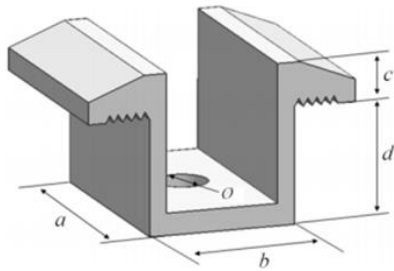
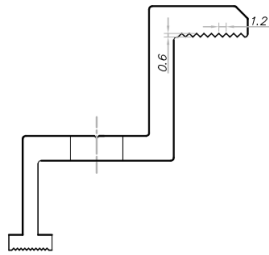
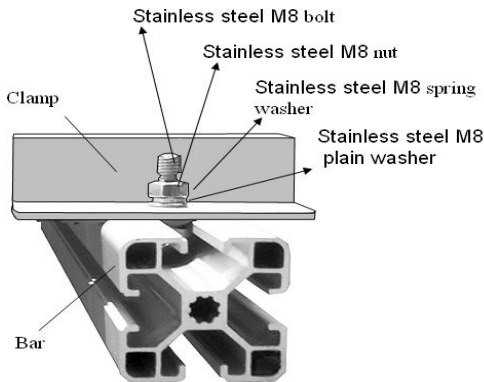

Fig. 5 Schematic diagram of the mid clamp
Fig. 6 Schematic cross section of the fringe clamp
Fig. 7 Schematic diagram of the fringe clamp
- ① Place the module on the two supporting rails (not provided by Astronergy) which should be made with stainless material and treated with an anti-corrosion process (e.g. hot dipped galvanizing). Each PV module needs at least four clamps to be fixed. The module clamps should not come into contact with the glass and should not deform the frame, otherwise they may cause module damage.
- ② Be sure to avoid shadowing effects from the module clamps. Weep holes on the module frame must not be closed or obscured by the clamps. The clamp must have at least 8mm but no more than 11mm overlap with the frame of the module (The clamp section can be changed under the premise of ensuring reliable installation).
- ③ The top surface of the rail contacted with module frame should be equipped with grooves compatible with an M8 bolt.
- ④ If the grooves are not provided, holes of a suitable diameter may need to be drilled to allow bolts attaching to the rail at the same locations as mentioned above.
- ⑤ Ensure that the mounting sequence of each clamp is in the order of flat washer, spring washer and nut.
⑥ There are two types of clamps, the mid clamp shown in Fig. 5 and the fringe clamp shown in Fig. 6 and Fig. 7. The mid clamp has dimensions of $a \geq 40$ mm, $b \geq 26$ mm, $c \geq 5$ mm, $d \geq 28$ mm, $\varnothing = 9$ mm. For module of 182/210mm-wafer, the size of mid and fringe clamp must meet $a \geq 60$ mm. The tightening torque is suggested to be 17~23Nm for Class 8.8 screw and bolts.
device after installation, it is suggested to choose fringe and mid clamps and make contact with the A side of the frame with groove patterns. Suggest to have 9 patterns with a space between 2 adjacent patterns of 1.2mm and a depth of 0.6mm, as shown in figure 6.